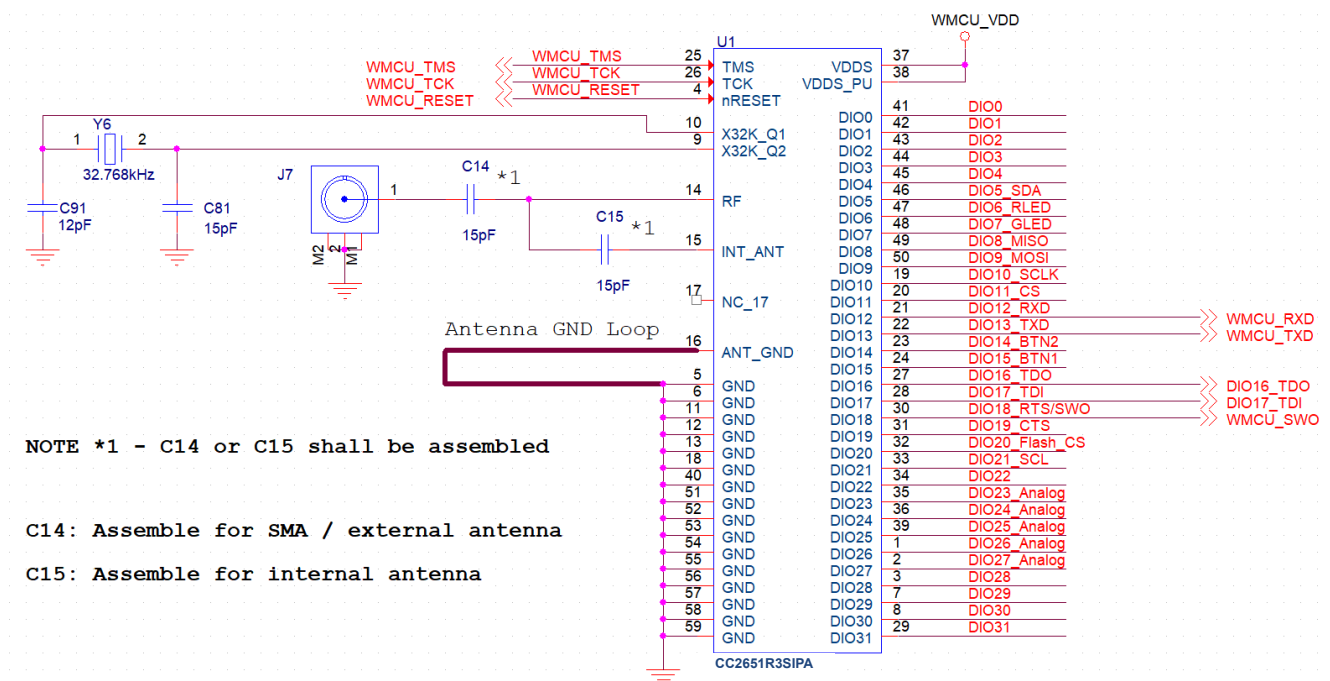

図 10-1. CC2651R3SIPA Typical Application Schematic
図 10-1 shows the typical application schematic using the CC2651R3SIPA module. Note that C15 should be assembled when using the integrated antenna option within the module and when the layout design guidelines in セクション 10.4.2 are strictly followed. If the layout guidelines described in セクション 10.4.2 cannot be followed, it is recommended to implement the alternate application circuit schematic in セクション 10.2 and follow the alternate layout guidelines in セクション 10.4.4.
表 10-1 provides the bill of materials for a typical application using the CC2651R3SIPA module with the internal antenna as shown in 図 10-1, while 表 10-2 provides the bill of materials for a typical application using the CC2651R3SIPA module with an external antenna as shown in 図 10-2
In order to meet the module power-on-reset requirements, VDDS (Pin 37) and VDDS_PU (Pin 38) should be connected together. If the reset signal is not based upon a power-on-reset and is derived from an external MCU, then VDDS_PU (Pin 38) should be No Connect (NC). Please refer to 図 10-1 for the recommended circuit implementation.